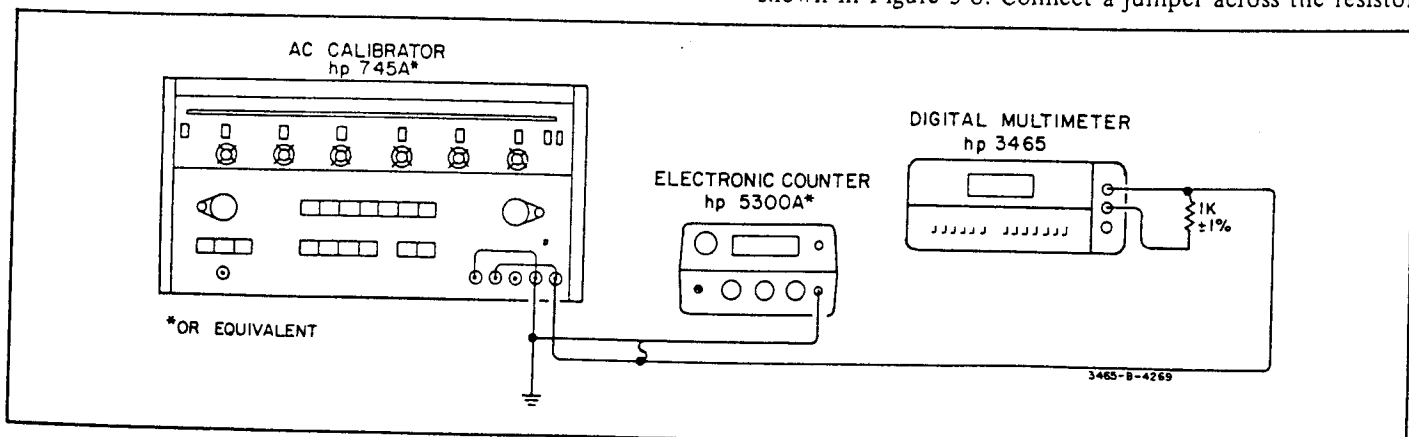

Figure 5-6. AC Effective Common-Mode Rejection Test.
- Connect the AC Calibrator to the Multimeter as shown in Figure 5-6.